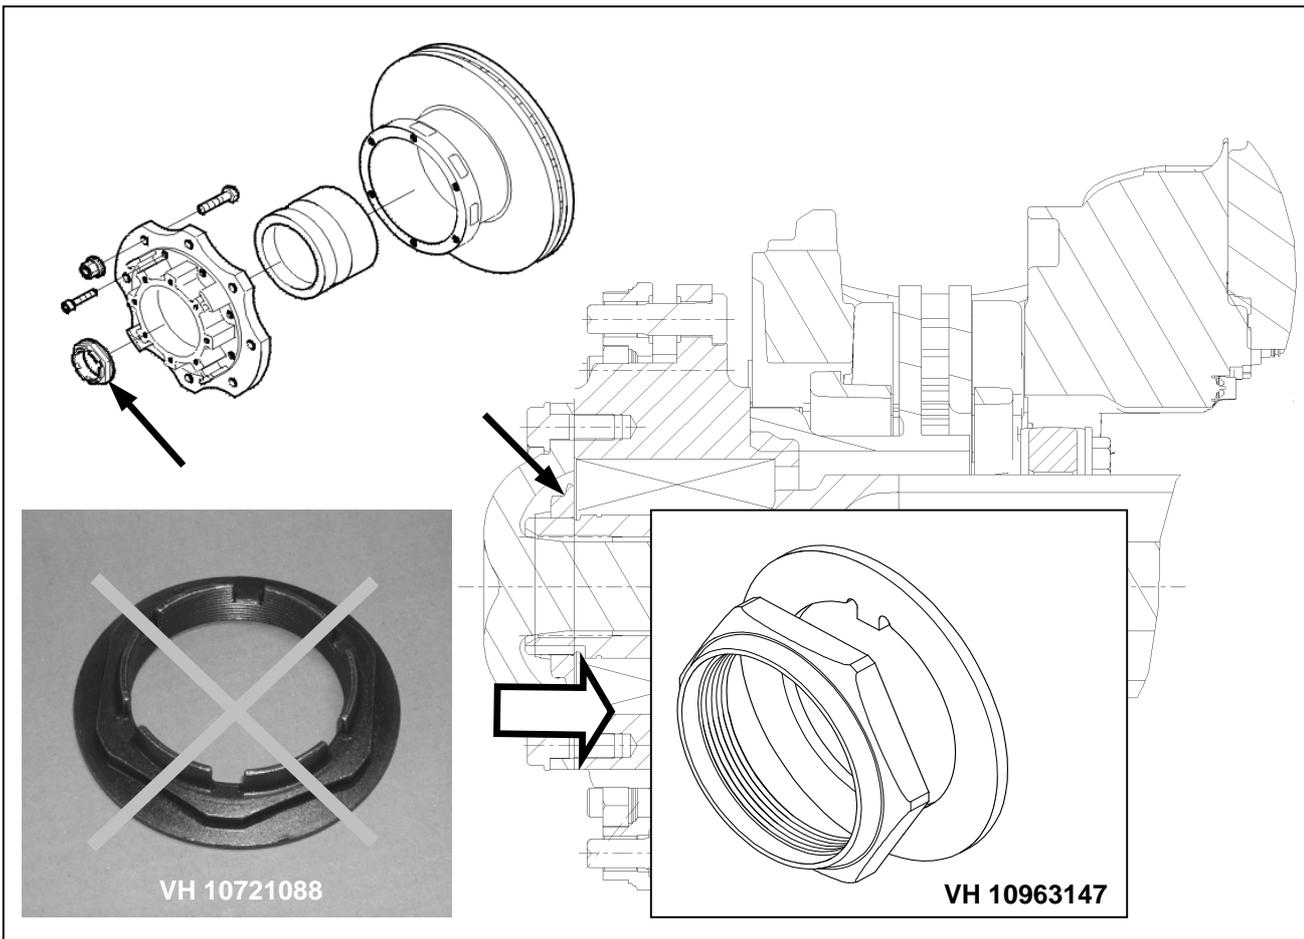

Figure 1: Previous and new fastener comparison
4. Dana recommend that all axles fitted with hub nut VH 10721088 (see Figure 1) are upgraded as described in this Bulletin whenever the hub installation is disturbed for any reason.